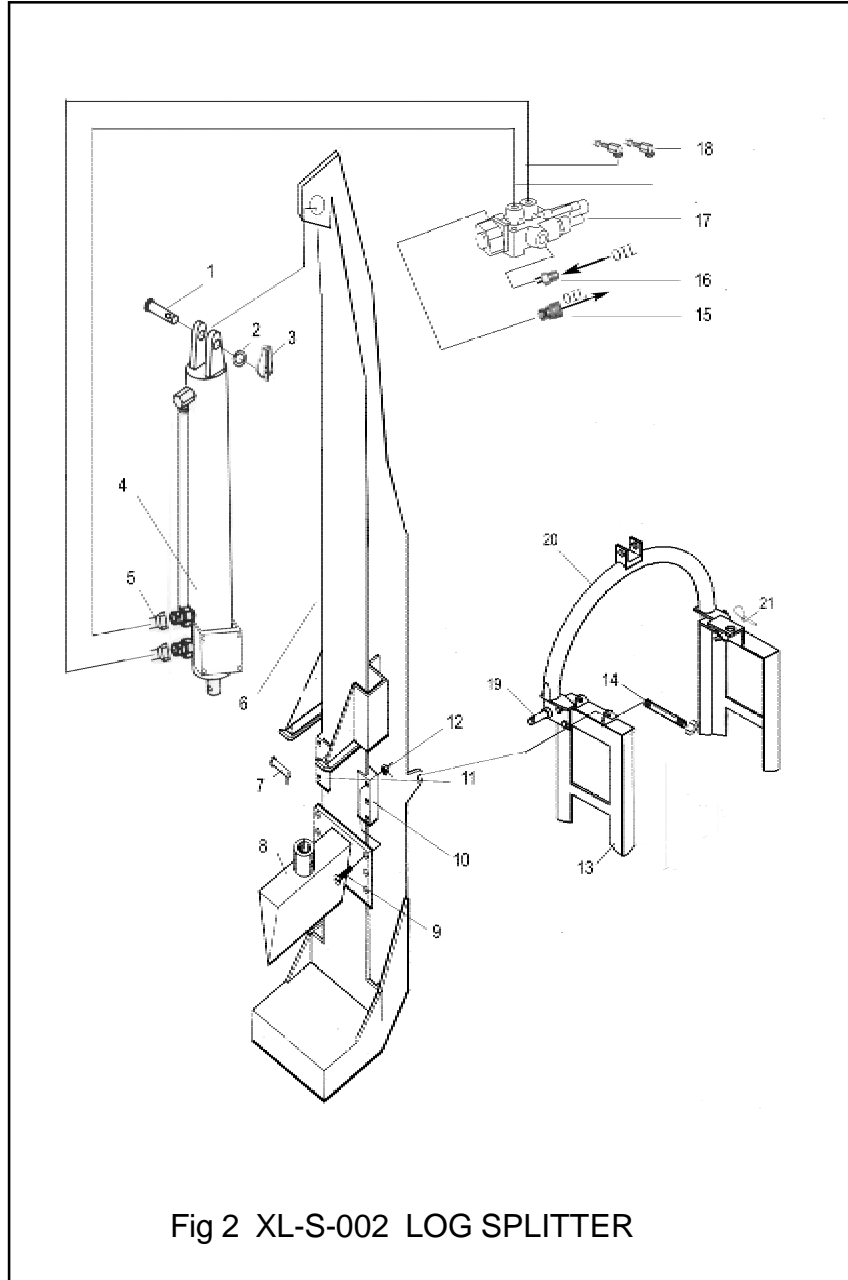

Fig 2 XL-S-002 LOG SPLITTER
2. XL-S-002 is three-point hitch.(Fig 2)